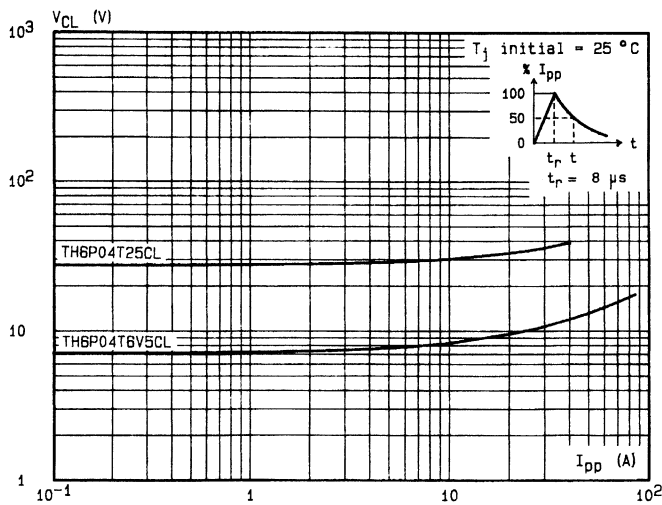

Fig.2 - Clamping voltage versus peak pulse current exponential waveform $t = 20 \mu s$.
Note : The curves of the figure 2 are specified for a junction temperature of 25 °C before surge. The given results may be extrapolated for other junction temperatures by using the following formula : $\Delta V (BR) = \alpha_T (V (BR)) \times [T_j - 25] \times V (BR)$